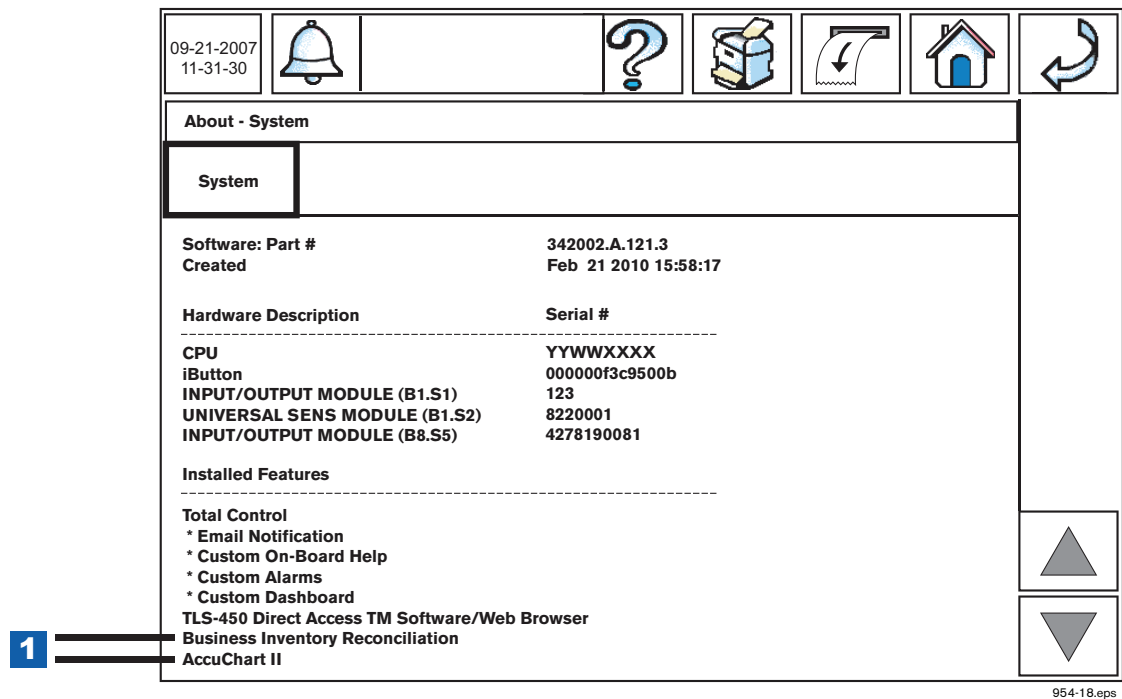

Figure 13. Verifying Installed Software Features
3. Verify that the features you installed are listed in the About screen's feature list (see example in Figure 13).
LEGEND FOR NUMBERED BOXES IN Figure 13